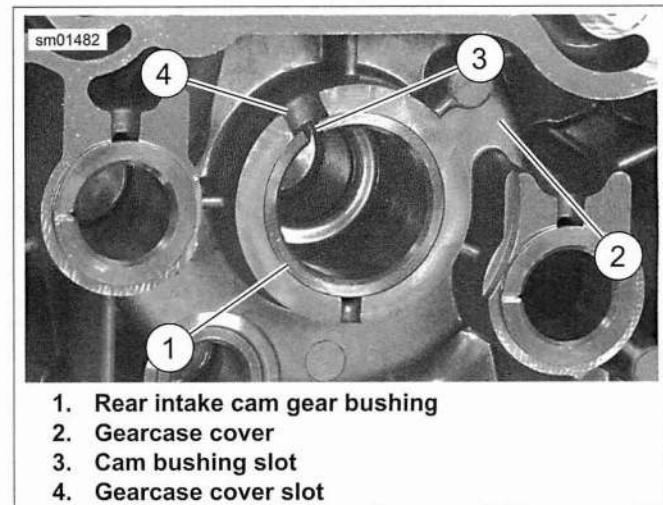

Figure 3-114. Rear Intake Cam Gear Bushing Installed in Gearcase Cover
1. See Figure 3-114. Position bushing (1) over bore of gearcase cover (2) with chamfered edge downward and slot upward. Align slot in bushing with slot in gearcase cover boss. Press bushing into cover bore until bushing is flush with cover boss.